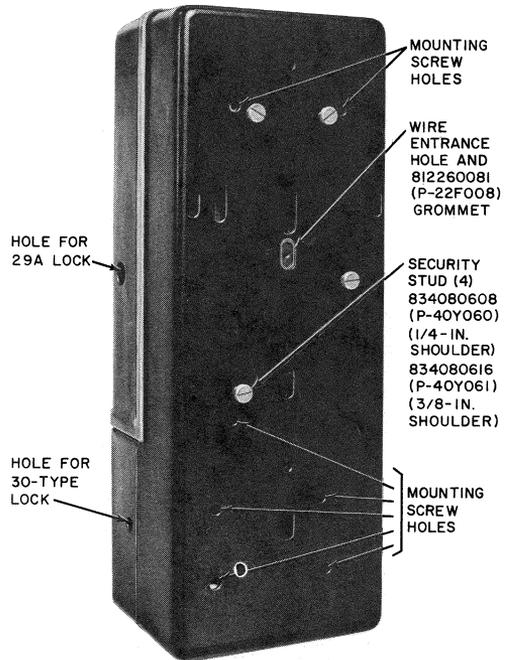

Fig. 11—Location of Mounting Screw Holes and Security Studs in 1-Type Set
3.05 Refer to Fig. 11, 12 and Tables G, H for security stud requirements.